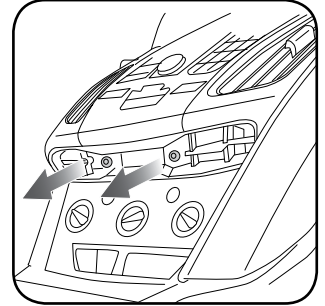

Fig. 1.2
2. Remove two (2) Torx T25 screws. (Fig. 1.2)